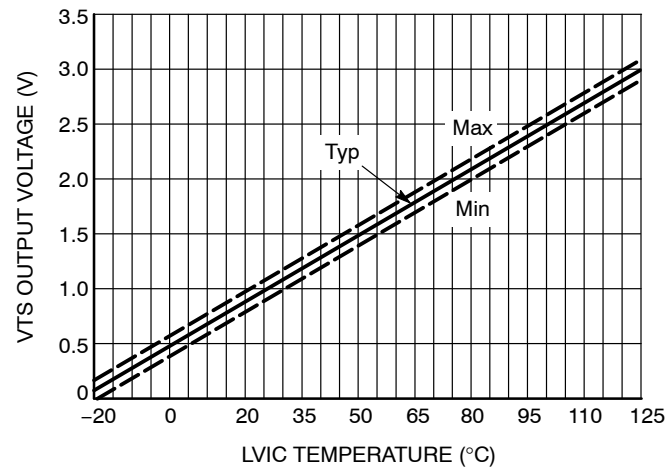

Figure 5. Temperature of LVIC vs. VTS Characteristics
7. T_{LVIC} is the temperature of LVIC itself. V_{TS} is only for sensing temperature of LVIC and cannot shutdown IGBT's automatically. The relationship between V_{TS} voltage output and LVIC temperature is described in Figure 5.